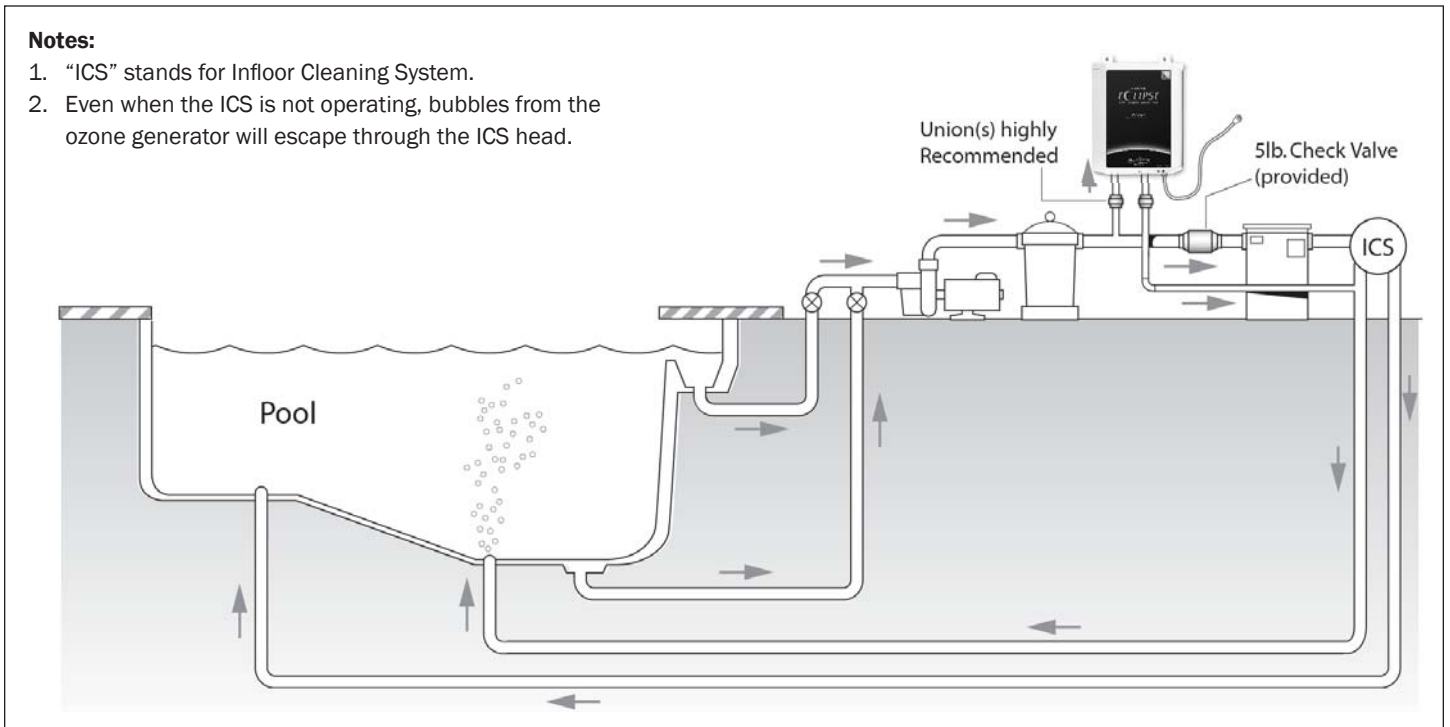
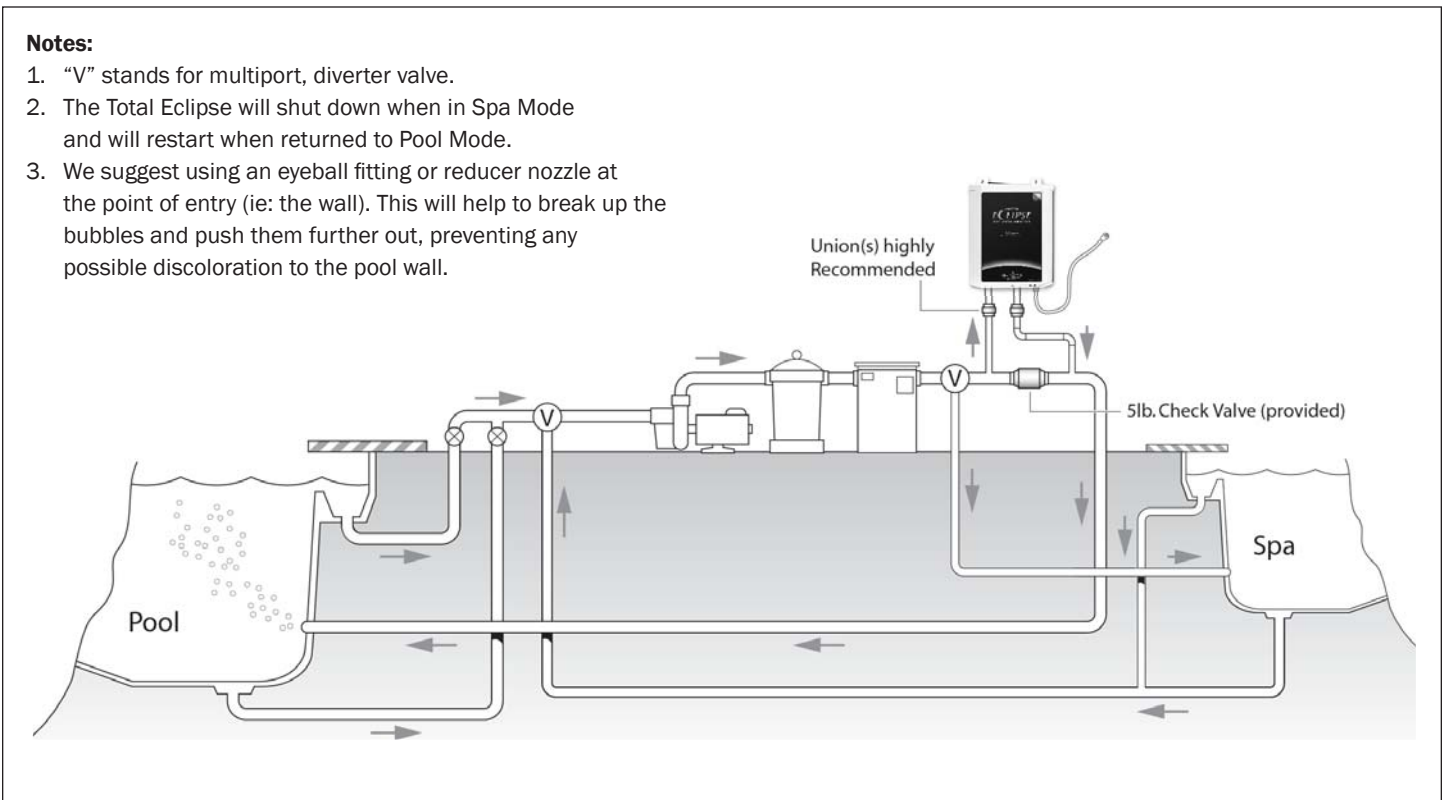
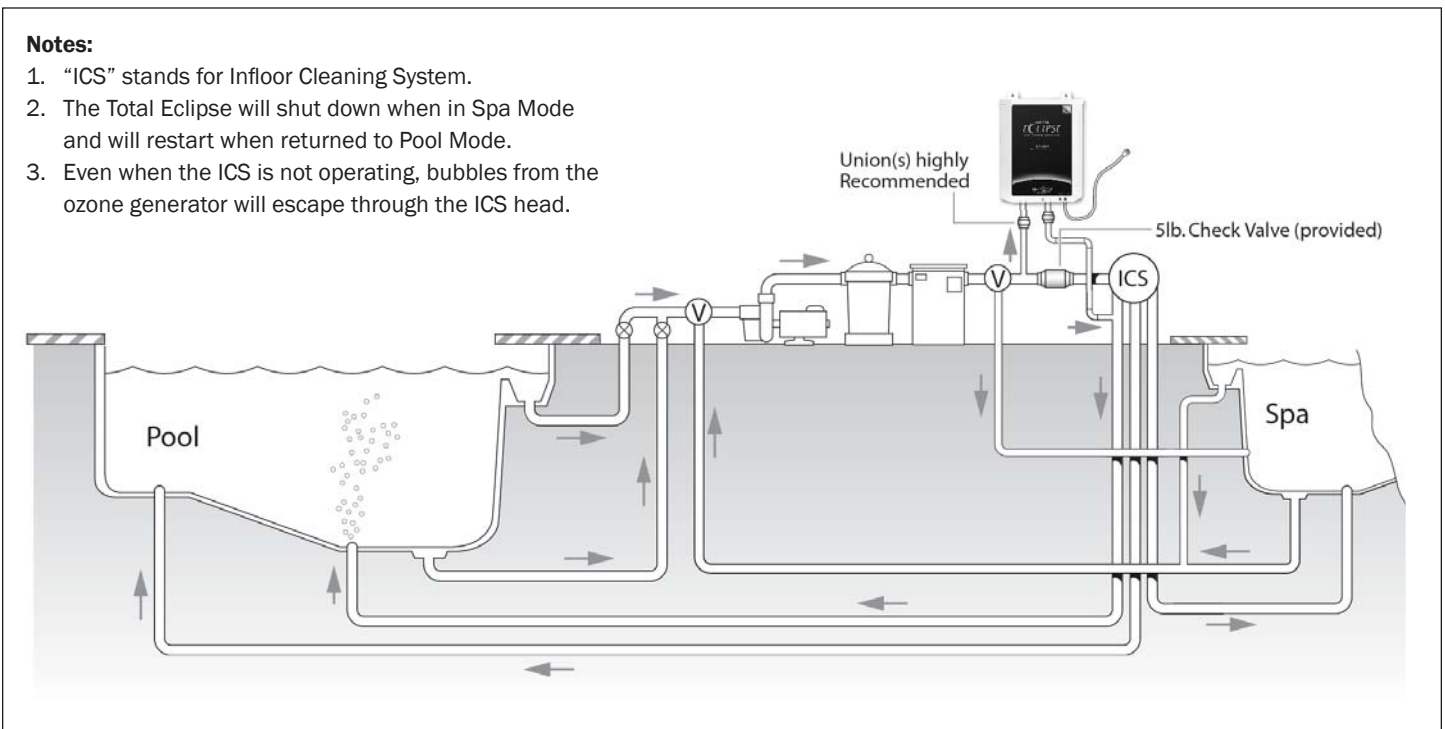

Figure 2: **Existing Pool** with Infloor Cleaning System
Figure 3: Existing Pool/Spa Combination without In floor Cleaning System
Figure 4: Existing Pool/Spa Combination with In floor Cleaning System
4. For optimum ozone distribution, the ozonated water should be returned back to the pool through a dedicated pipe in the bottom of the pool. If it is not possible to install with the dedicated return to the bottom of the pool, then install the Total Eclipse as shown in Figures 2, 3, or 4 based on the specific configuration of your system. These installation figures cover the following installation types: Figure 2—existing pools with in-floor cleaning system (ICS); Figure 3—existing pool/spa combination without in-floor cleaning system; Figure 4—existing pool/spa combination with in-floor cleaning system.
- a. Plumb the Water Inlet to the Total Eclipse as shown in Figures 2, 3, and 4,